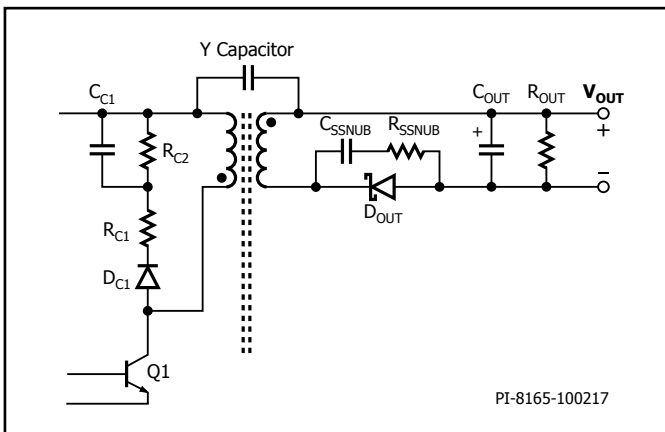

Figure 34. Alternative Y Capacitor Connection.
- Figure 34 shows an alternative Y capacitor connection and output diode arrangement that may be more effective in some designs.